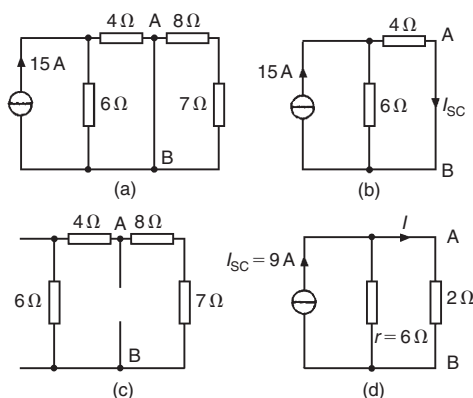

Figure 13.63
- (i) The 2Ω resistance branch is short-circuited as shown in Fig. 13.63(a)
- (ii) Fig. 13.63(b) is equivalent to Fig. 13.63(a). Hence
- (iii) If the 15 A current source is replaced by an open-circuit then from Fig. 13.63(c) the resistance 'looking-in' at a break made between A and B is given by $(6+4)\Omega$ in parallel with $(8+7)\Omega$, i.e.
- (iv) From the Norton equivalent network shown in Fig. 13.63(d) the current in the 2Ω resistance is given by: